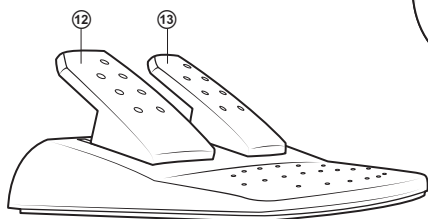

Fig. 3. Foot pedal unit
• Connect pedal unit to the device (Fig. 3) via cable of the pedal unit to RJ-11 jack ⑭, then connect USB cable ⑮ of the device to the USB port of the computer.